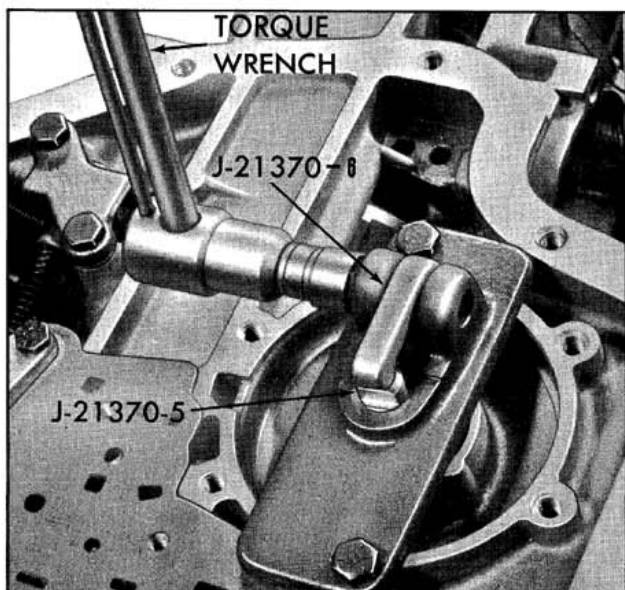

Fig. 6-45 Checking Rear Band Apply Pin
4. Make band apply pin selection check. (Fig. 6-45)